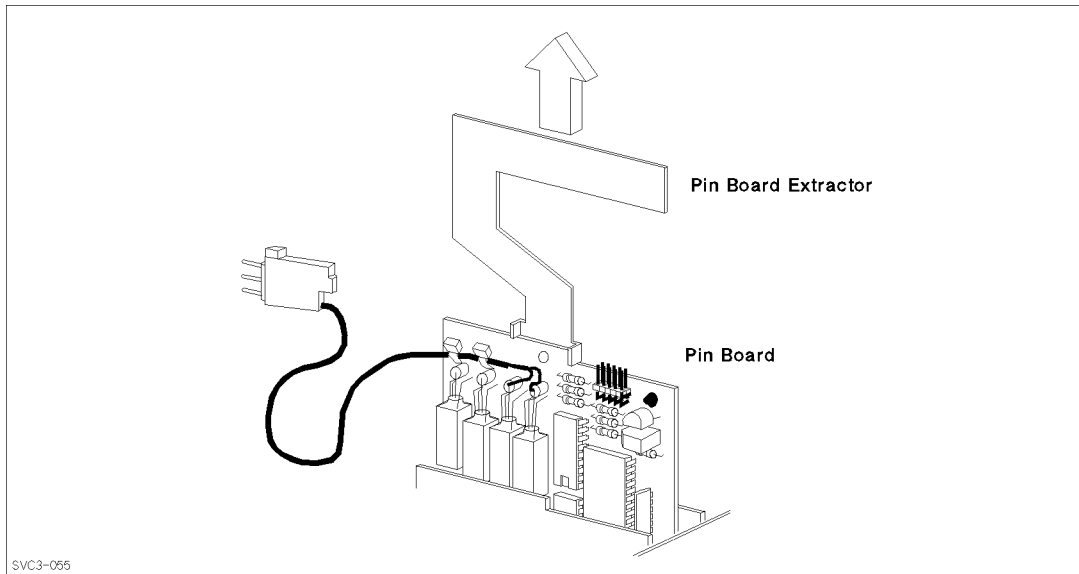

Figure 3-23. Removing Pin Boards
5. Carefully remove pin boards by pulling them out with the pin board extractor as shown in Figure 3-23. Be careful not to let the removed measurement pin assemblies touch any other contact pins.